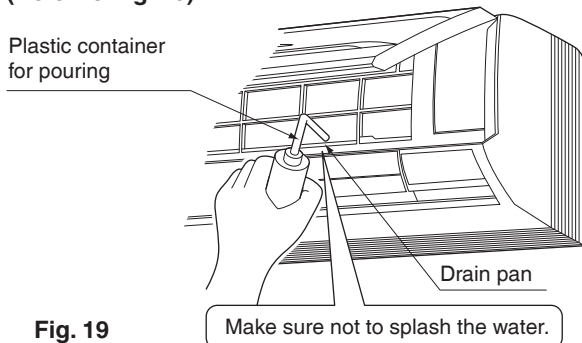

Fig. 19
(2) Make sure the drain piping works properly.
- After drain piping work is complete, perform a drainage check by opening the front panel, **removing the air filter**, pouring water into the drain pan, and making sure water flows smoothly out of the drain hose. (Refer to Fig. 19)